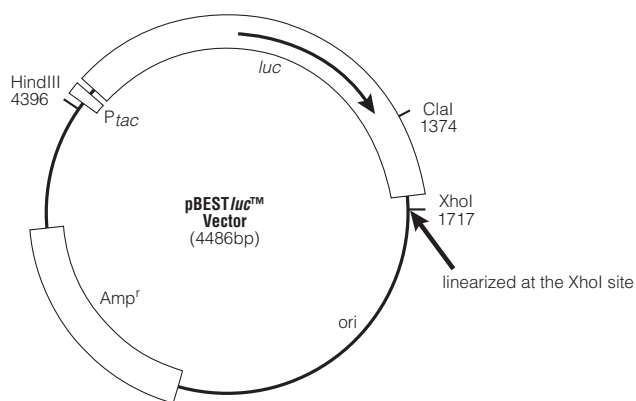

Figure 2. Vector circle map of pBESTluc™ Vector.
The S30 System for Circular DNA contains an S30 Premix Without Amino Acids that is optimized for each lot of S30 Extract and contains all other required components, including rNTPs, tRNAs, an ATP-regenerating system, IPTG and appropriate salts. Amino acid mixtures lacking cysteine, methionine or leucine are provided to facilitate radiolabeling of translation products. This system also includes a control DNA template, pBEST $_{luc}^{TM}$  Vector (Figure 2). This vector contains the eukaryotic firefly luciferase gene positioned downstream from the *tac* promoter and a ribosome binding site. Expression of the luciferase gene in the S30 System for Circular DNA can be easily assayed by non-radioactive methods using the provided Luciferase Assay Reagent (6-8). The assay produces high light output for several minutes, allowing the researcher to choose from several methods of detection (7-10), including simple visual observation of luminescence.
- Use pBESTluc™ DNA to synthesize luciferase (see Figure 2 for a plasmid map). Luciferase migrates at 61kDa. An apparent internal translation start results in a second major gene product of 48kDa. The control plasmid also contains the gene for ampicillin resistance (β-lactamase). β-lactamase may appear as a faint band migrating at 31.5kDa. See Figure 1 for typical results. Unlabeled luciferase is used in a luminescence assay to monitor the efficiency of the S30 reaction (Section 5). To generate unlabeled luciferase, use a complete amino acid mixture rather than a minus amino acid mixture and omit the radiolabeled amino acid (see Section 5).